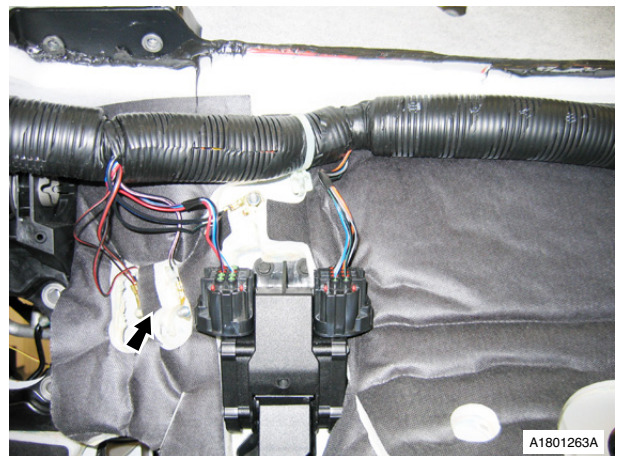

Fig. 2
30. Remove earth headers (x3) (see Fig. 2).